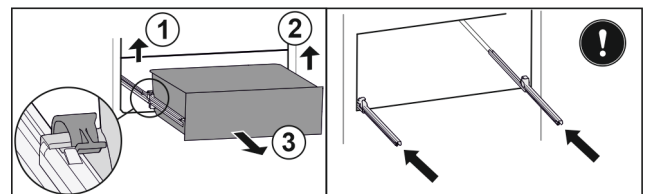

Fig. 201
- ▶ Lift left clamp and simultaneously pull drawer forwards on the left. Fig. 201 (1)
- ▶ Lift right clamp and simultaneously pull drawer forwards on the right. Fig. 201 (2)
- ▶ Remove drawer to the front. Fig. 201 (3)